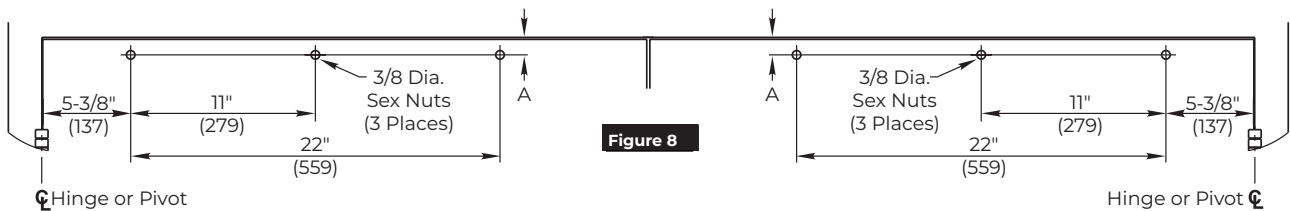

Figure 8
- Locate and prepare track holes in doors. (Figure 8)